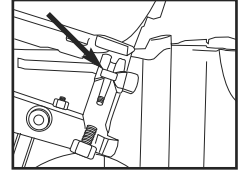

Figure 1
1. **Open the canister:** Pull down door latch and swing door/canister cover outward. (See Figure 1)
3. Release locking button. (See Figure 1)